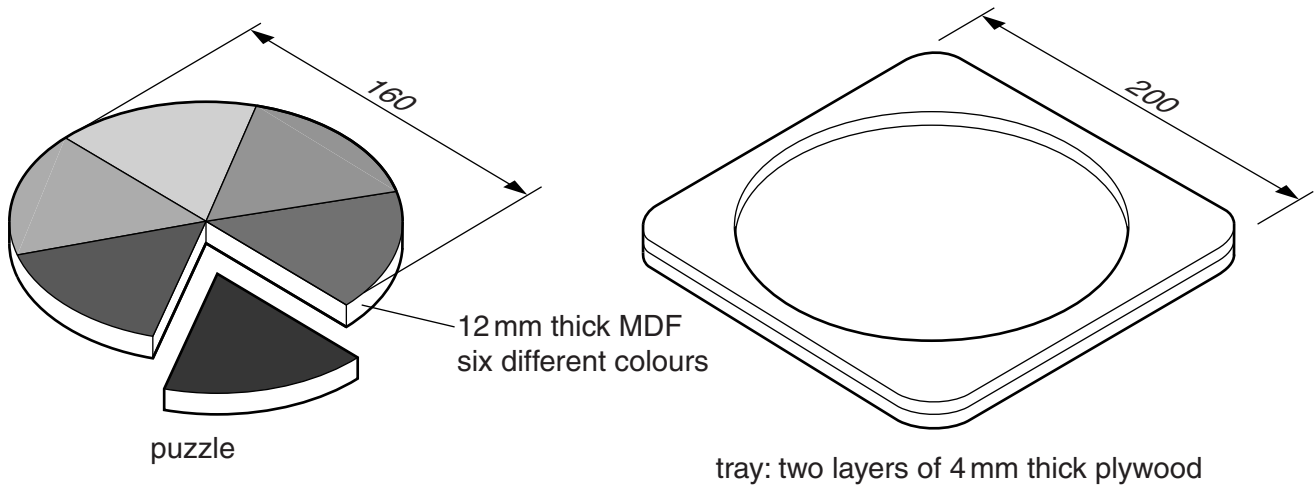

Fig. 10
- 13 Fig. 10 shows details of a child's puzzle and the tray in which the puzzle is placed. The puzzle is made from six pieces of MDF and the tray is made from plywood.
- (c) The tray shown in Fig. 10 is made from two pieces of 4 mm plywood glued together.